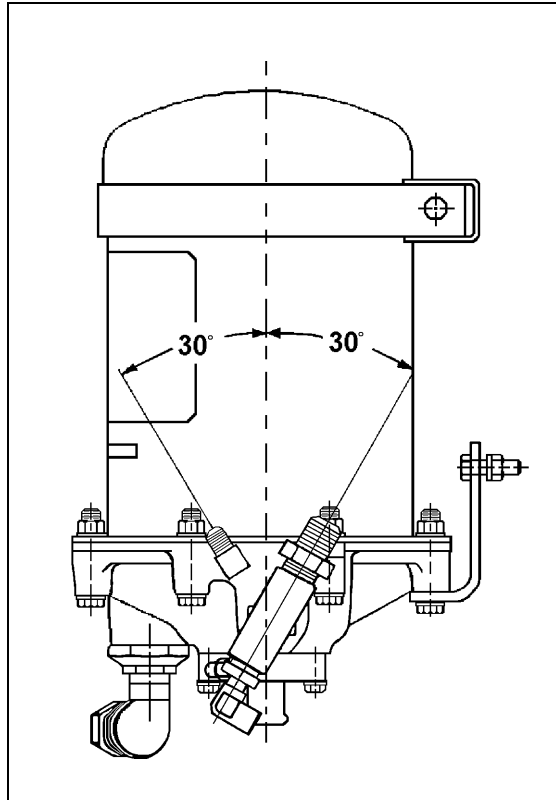

FIGURE 5: BENDIX AD-9 AIR DRYER
14. Assemble Bendix AD-9 air dryer as per figure 5.